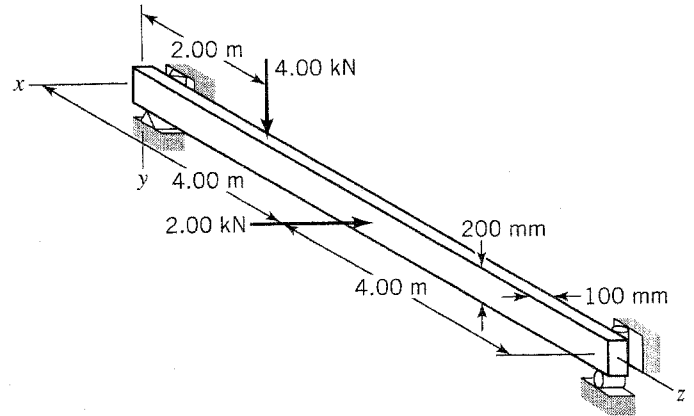

FIGURE P7.40
7.40. A wood beam of rectangular cross section 200 mm by 100 mm is simply supported at its ends (Figure P7.40). Determine the location and magnitude of the maximum flexural stress in the beam.